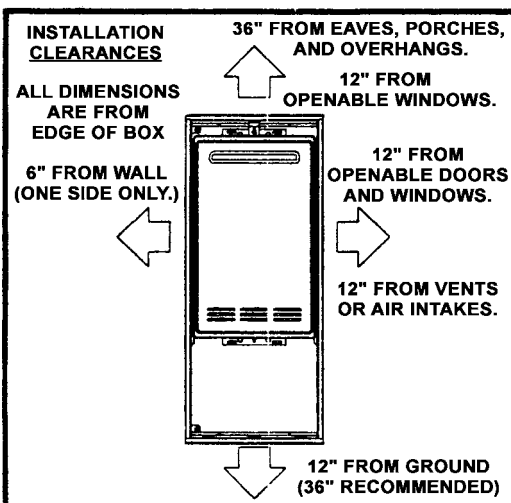

Figure 1
1. Determine a suitable location for the installation of the recess box meeting the installation clearances shown in Figure 1, below.